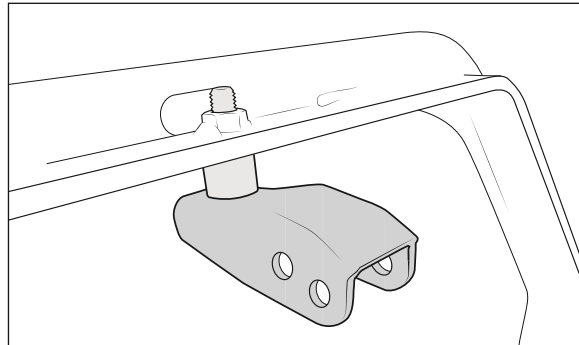

Figure 11
2. Install stamped steel mounting bracket to the center weld nut in the bumper hoop. The hardware order is bolt, regular washer, square washer, stamped bracket, tube spacer, then install onto the bottom of the bumper hoop. Make sure it's pointed straight forward and torque to 50 lb-ft (fig. 11).